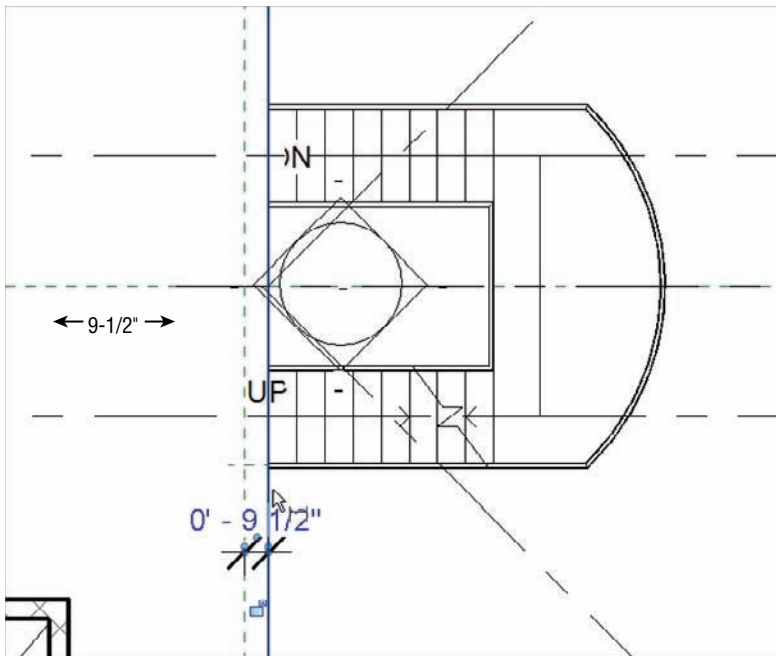

FIGURE 10.14 Add two reference planes as indicated here.
6. On the Place Reference Plane tab, click the Pick Lines button, as shown in Figure 10.14.
7. Offset a reference plane $9\frac{1}{2}''$ (237mm) to the left of the bottom riser, as shown in Figure 10.14.
8. Draw another reference plane from the center line of the bottom railing to the left about 2'-0" (600mm), as shown in Figure 10.14.